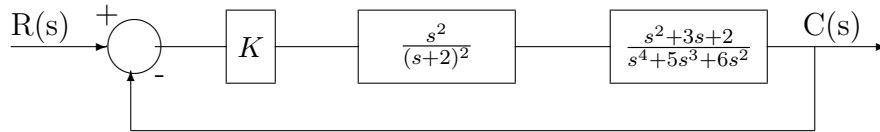

Figure 2: Unity Feedback System
1. For the system in Fig. 2, write the forward path transfer function in the general form given in equation (4.11) on Page 103 of Van de Vegte. What is the type number of this system? What is the gain?